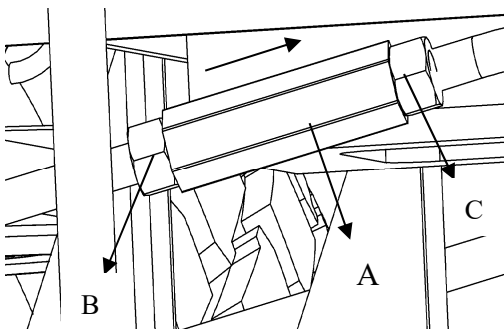

Fig. 22
- If the right wheel rotates clockwise, slightly loosen the nut (B and C), then turn the neutral buckle (A of Fig. 22) until the wheel does not rotate. At last, tighten the nut (B and C) securely.